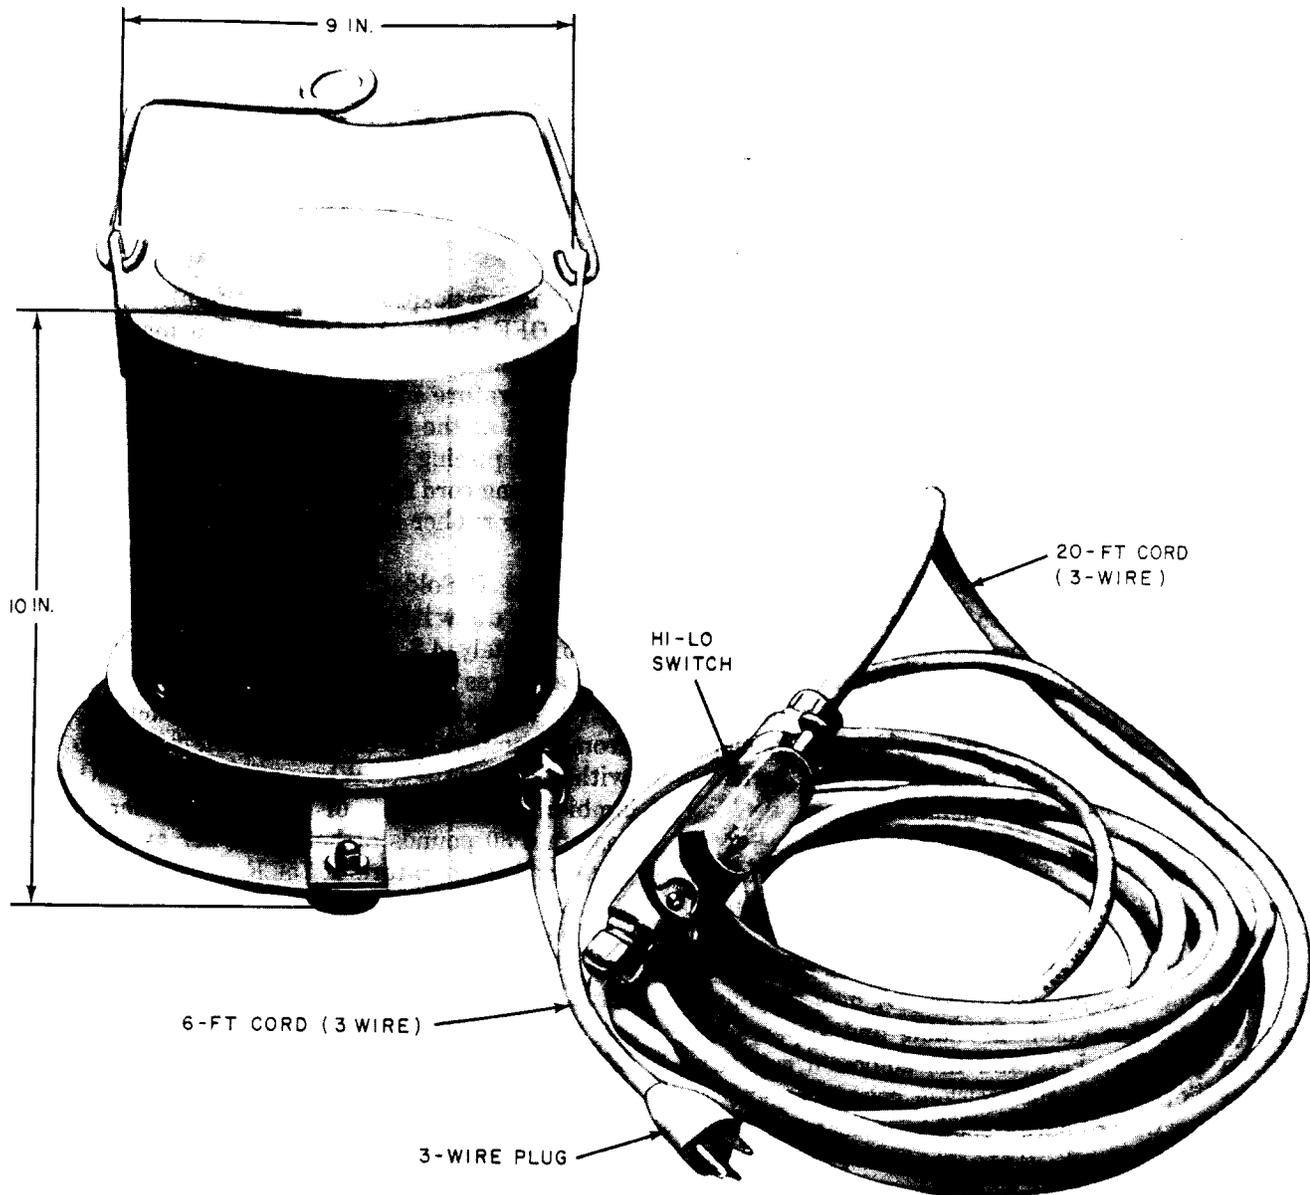

Fig. 1—C Solder Pot
2.01 The C Solder Pot (Fig. 1) consists of a welded steel crucible with a 30-pound capacity, two electric heating elements, a metal shell insulated